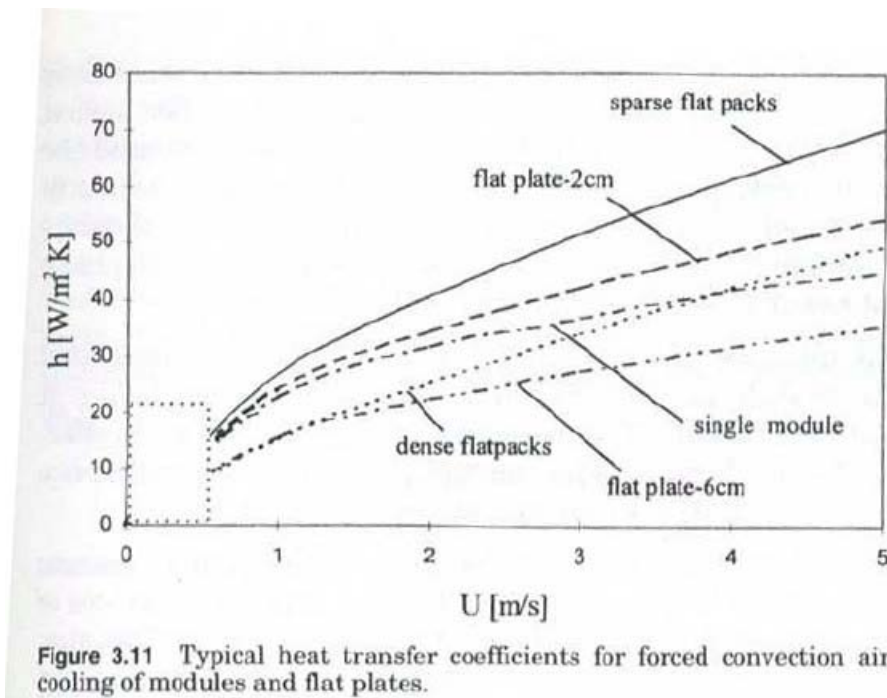

Fig. 2 Heat transfer coefficient, h for air cooling
- (1) Compute the thermal resistance of the convected air flow, R_{air} , by using Fig. 2 for a single module with air speed of 2m/sec where you have to estimate h from Fig. 2, first.